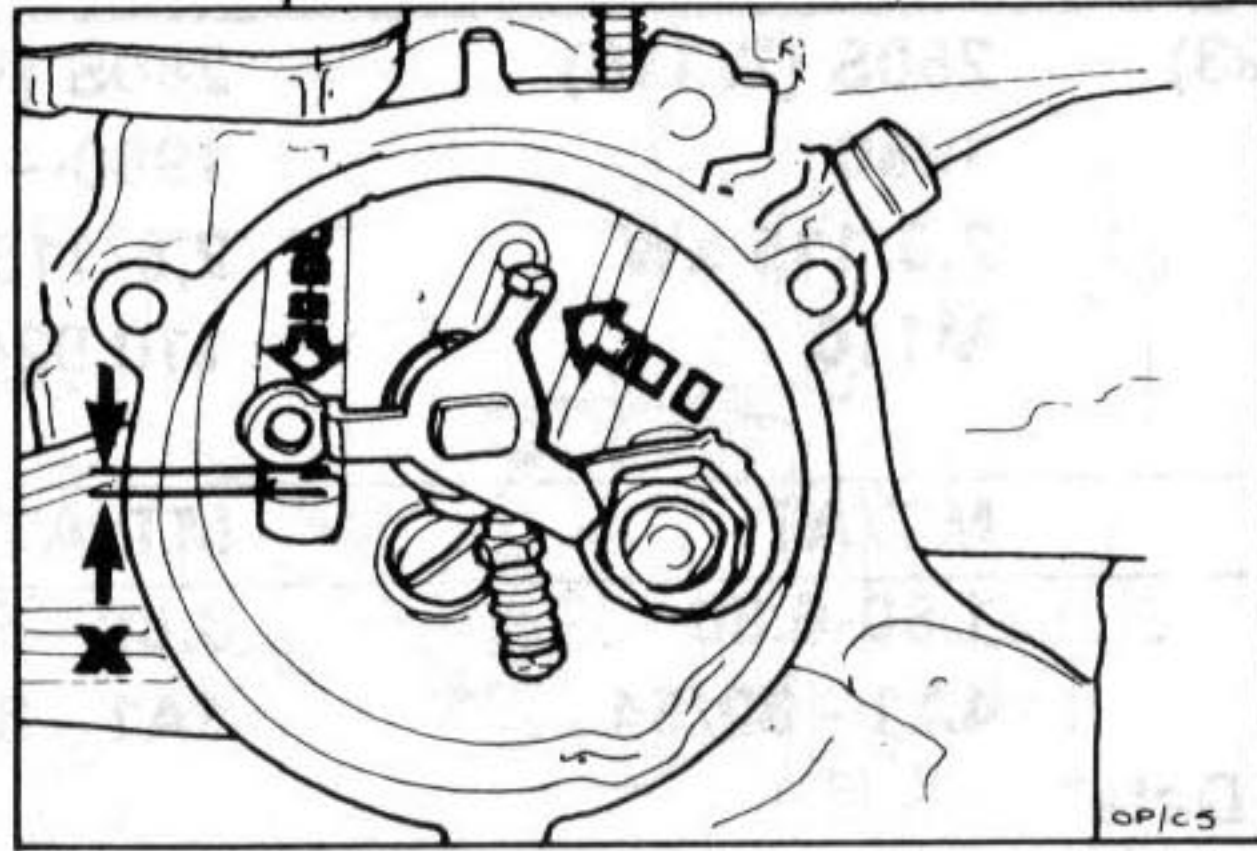

Fig. 6 Checking choke rod clearance
- With choke plate held closed, check that clearance 'X' between diaphragm pull rod and choke intermediate lever is 0,1 - 0,2 mm (Fig. 6).